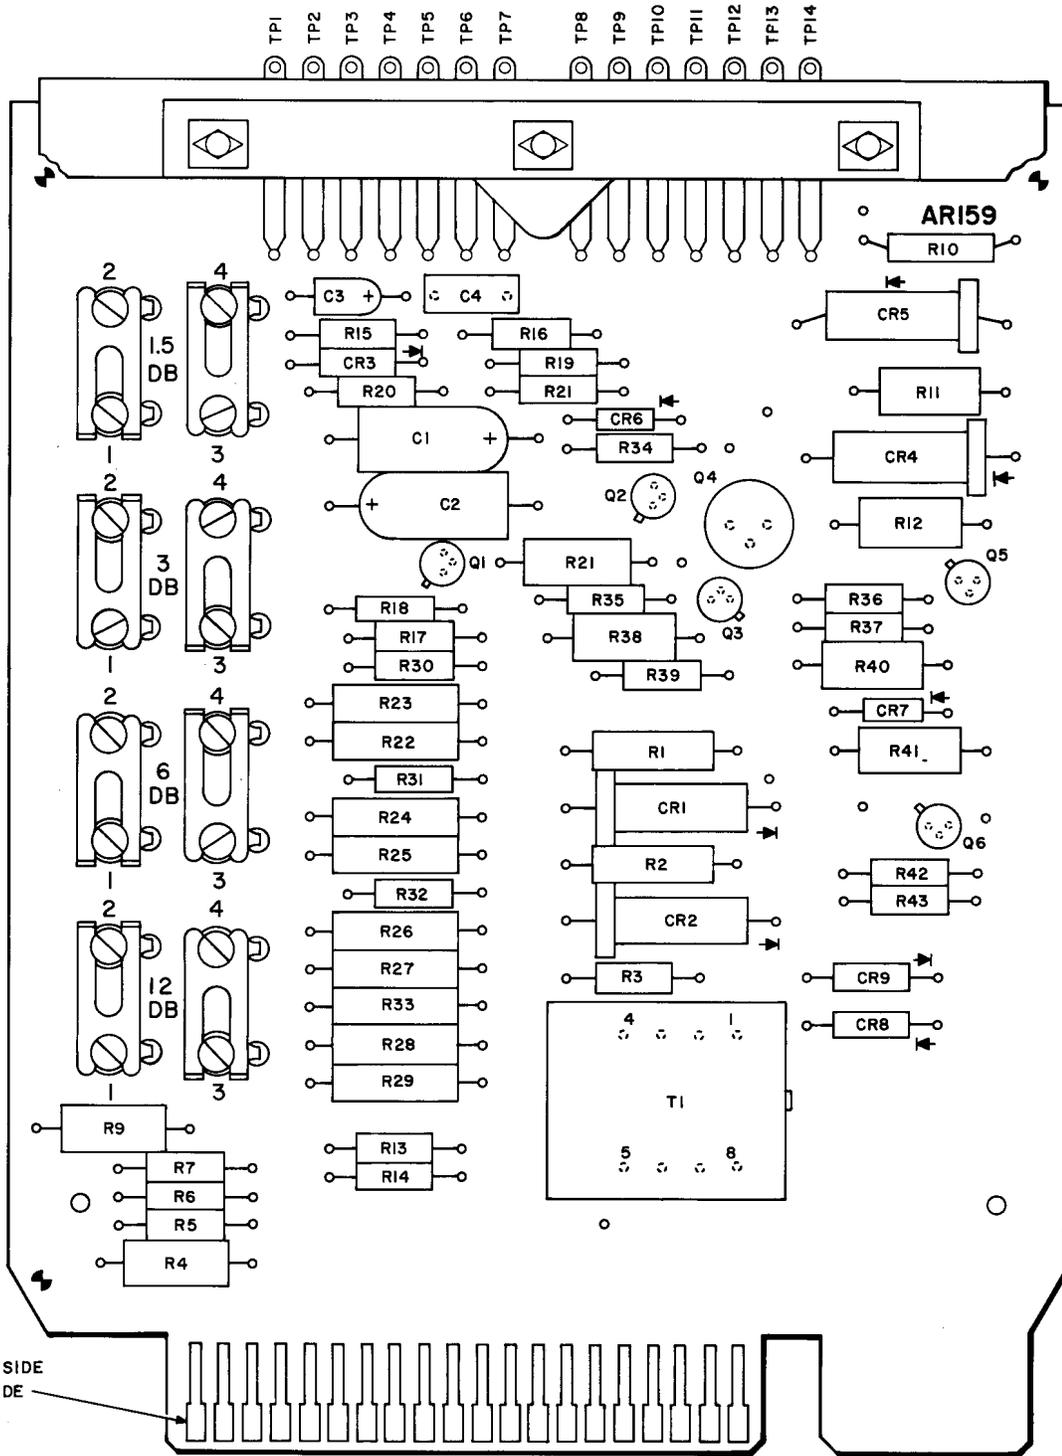

Fig. 4—Circuit Pack AR159 (Line Circuit) Board
**3.12** Carefully remove the AR159 circuit pack from location G03. The AR159 (line circuit) board is illustrated in Fig. 4. This board contains four loss pads and other circuitry. By using combinations of the pads, the transmitter output level to the telephone line may be adjusted from 0 dBm to -18.0 dBm in 1.5 dB increments. To connect a pad into the circuit, the terminals must be strapped 1 to 3 and 2 to 4. To remove a pad from the circuit, the terminals must be strapped 1 to 2 and 3 to 4. The possible transmitter output levels using the four pads are tabulated in Table B. Condition the line circuit board as specified on the service order. After the circuit board is properly conditioned, carefully return it to the original location and remove the extracting tool.
**3.28** Carefully remove the AR159 circuit pack from location G03. The AR159 (line circuit) board is illustrated in Fig. 4. This board contains